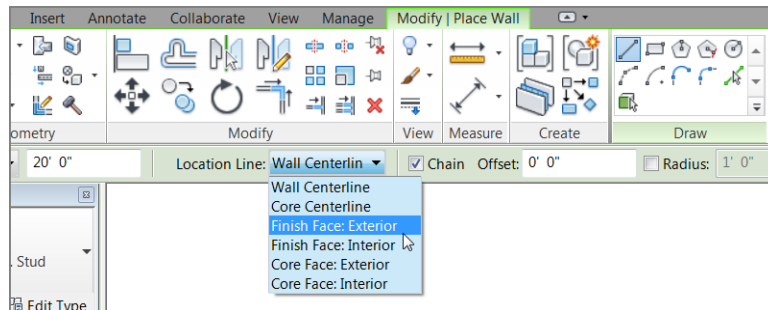

FIGURE 1.16: By selecting Finish Face: Exterior, you know the wall will be dimensioned from the outside finish.
2. Back in the Options bar, find the Location Line menu. Through this menu, you can set the wall justification. Select Finish Face: Exterior (see Figure 1.16).
3. On the Options bar, be sure the Chain check box is selected, as Figure 1.16 shows. This will allow you to draw the walls continuously.